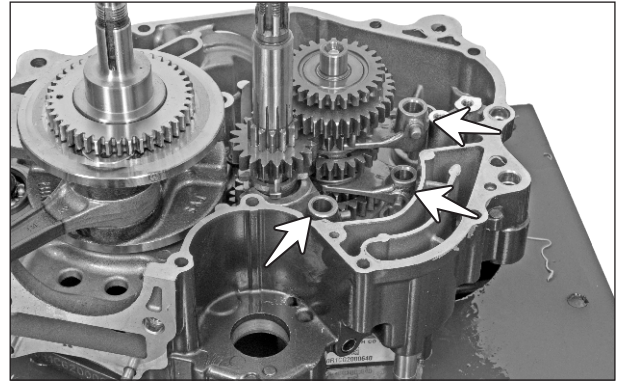

Fig. 3.184
- Assemble the fork gear shift no.1, fork gear shift no. 2 and fork gear shift high speed on their respective position. (Fig. 3.184)